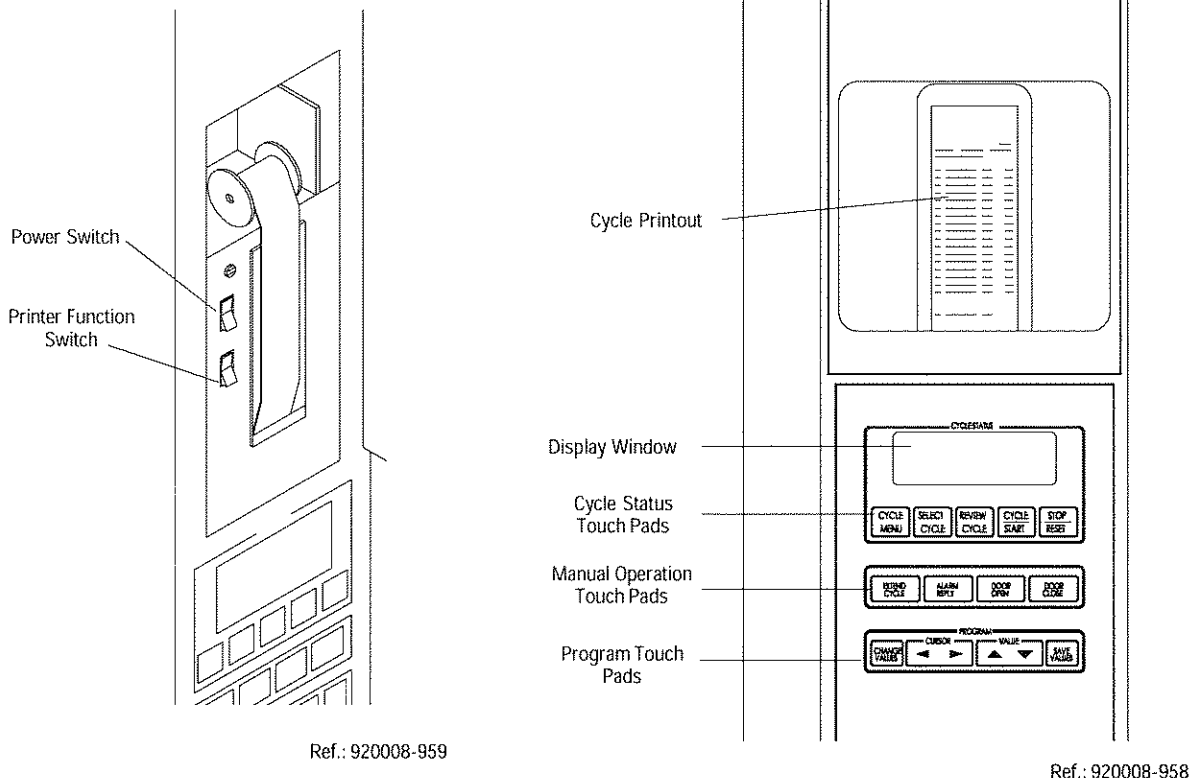

Figure 4-1. Control Location
1. Position POWER-OFF/STANDBY switch to OFF/STANDBY (see Figure 4-1).